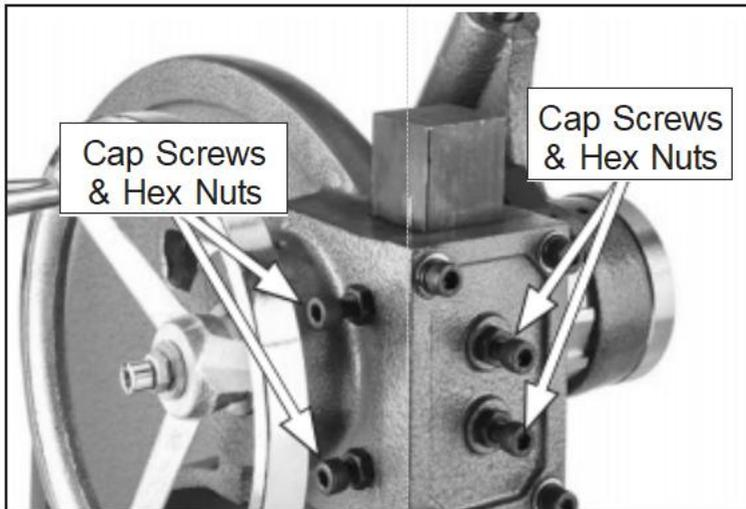

Figure 8. Cap screws used to adjust ram free-play.
Cap screws on the front and left side of the ram housing (see **Figure 8**) adjust the amount of ram free-play. Ideally, the ram should move with very little play but not be overly stiff.
1. Loosen cap screws shown in **Figure 8**.
4. When you are satisfied with the amount of ram free-play, retighten hex nuts (shown in **Figure 8**) without moving cap screws.